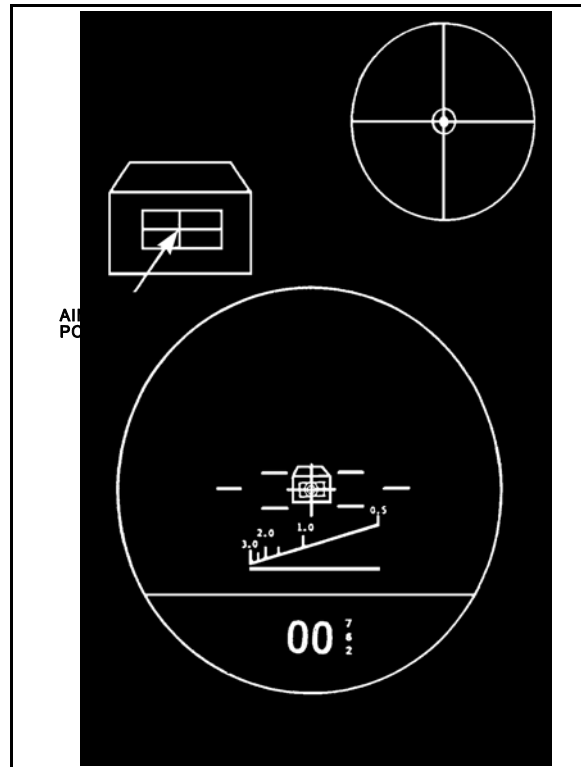

Figure 3. Aiming point image in the boresight reticle.
5. *Helper:* Look at the aiming point image in the boresight reticle (Figure 3, page 3-176).